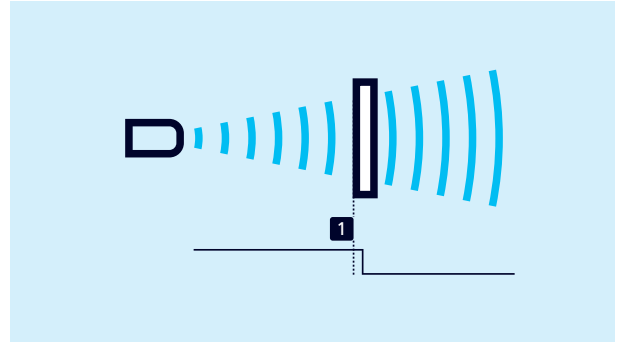

Fig. 7: Switching point (Method B), single point + set point offset
- The switching output is set if the distance measured to an object is smaller than the set switching point plus an offset (see Fig. 7).